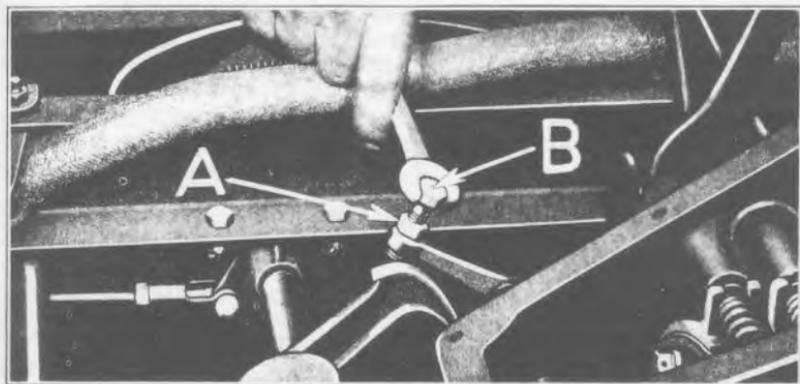

Fig. 509
**1063** To adjust the clutch lever screw, remove mat and floor boards and loosen the clutch lever screw lock nut (See "A" Fig. 509) and turn the screw "B" one turn in a clockwise direction or until the low speed pedal moves down  $1\frac{3}{4}$ " when the hand brake lever is pulled back as far as it will go.